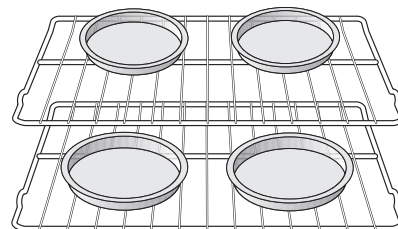

Figure 26: Space pans for more even baking
- When using two racks for baking, space the pans as shown in Figure 26 for more even baking results.